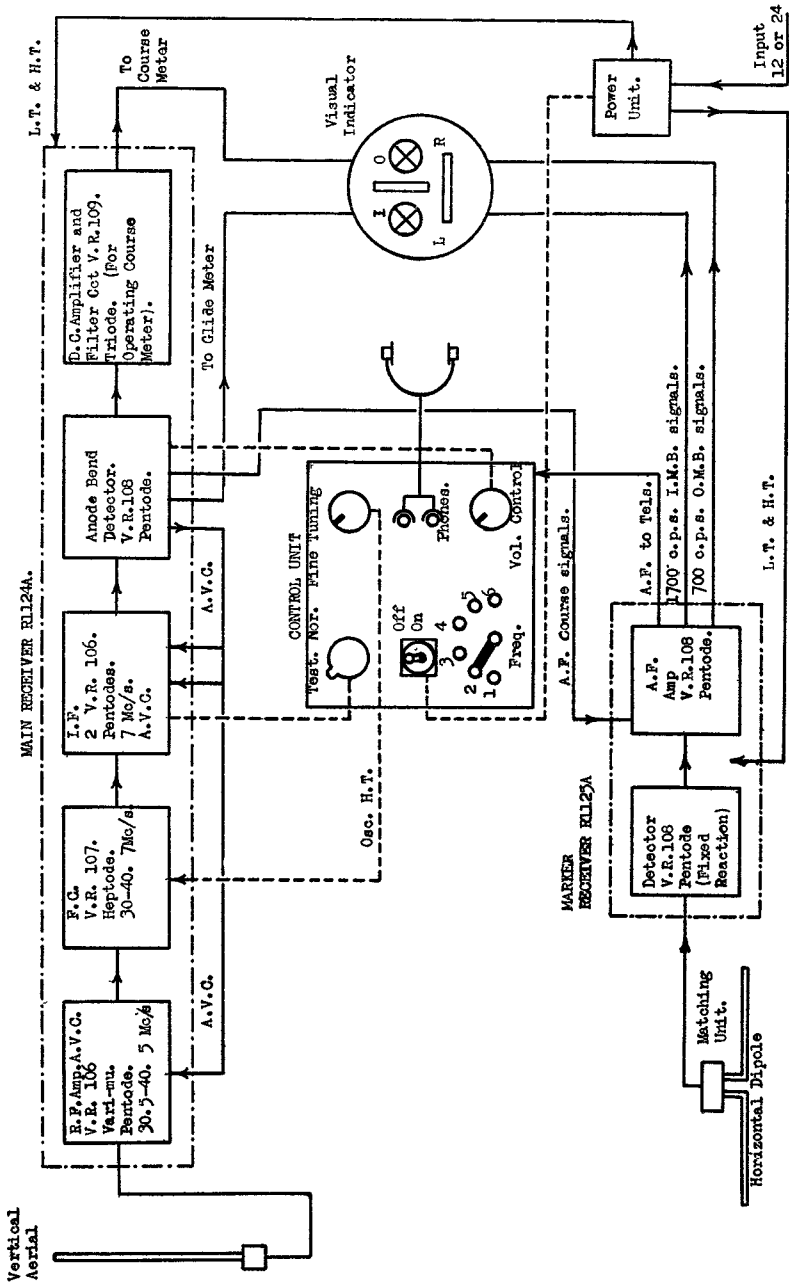

FIG. 88.—Block diagram beam approach aircraft equipment.
7. **Circuit** (the block schematic diagram (fig. 88) indicates the general principles of the equipment).—(i) R.1124A ; the aerial, R.F. anode, F.C. grid and oscillator circuits are each tuned by six pre-set condensers (24 condensers in all).